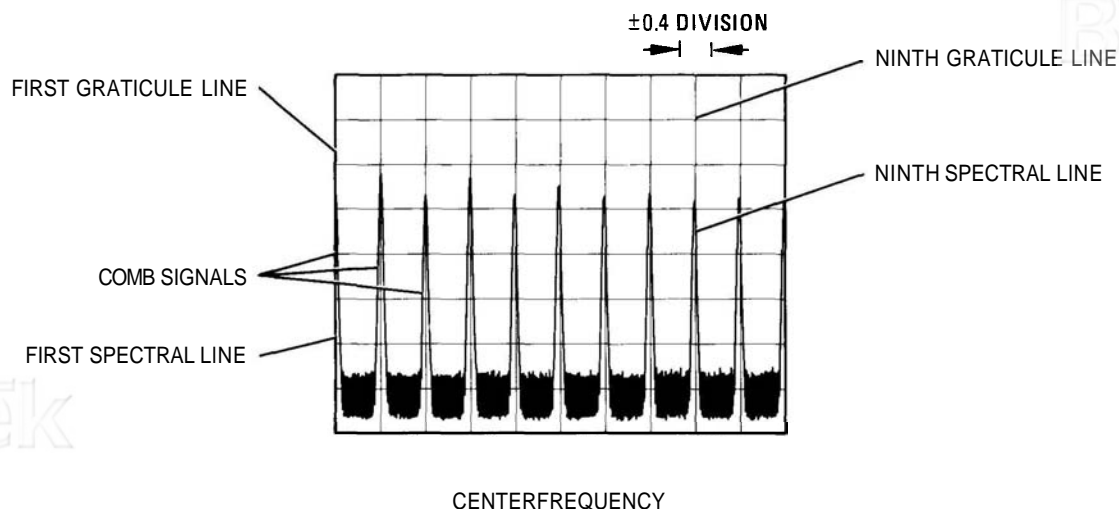

FIGURE 4-3. FREQUENCY SPAN ACCURACY MEASUREMENT FOR NINTH SPECTRAL LINE
- Set comb generator **COMB FREQUENCY** – MHz for 10-MHz comb. Set spectrum analyzer **FREQ SPAN/DIV** to 20 MHz. Adjust TUNING control to position one spectral line on the first graticule line. Measure the error between 17th spectral line and ninth graticule line as shown in Figure 4-3. Error should be no greater than ± 0.4 division.